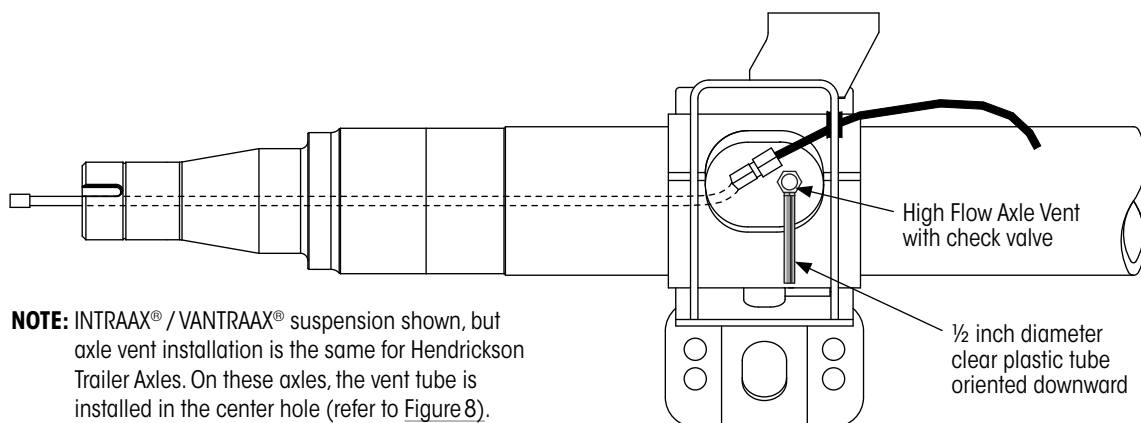

Figure 16: Typical axle vent installation
The High Flow Axle Vent is installed in the previously drilled hole as shown in Figure 16. Refer to Axle Preparation on page 12 for drilling details.
1. **Install** axle vent into hole provided in axle (Figure 16 on page 17) and **hand-tighten**.